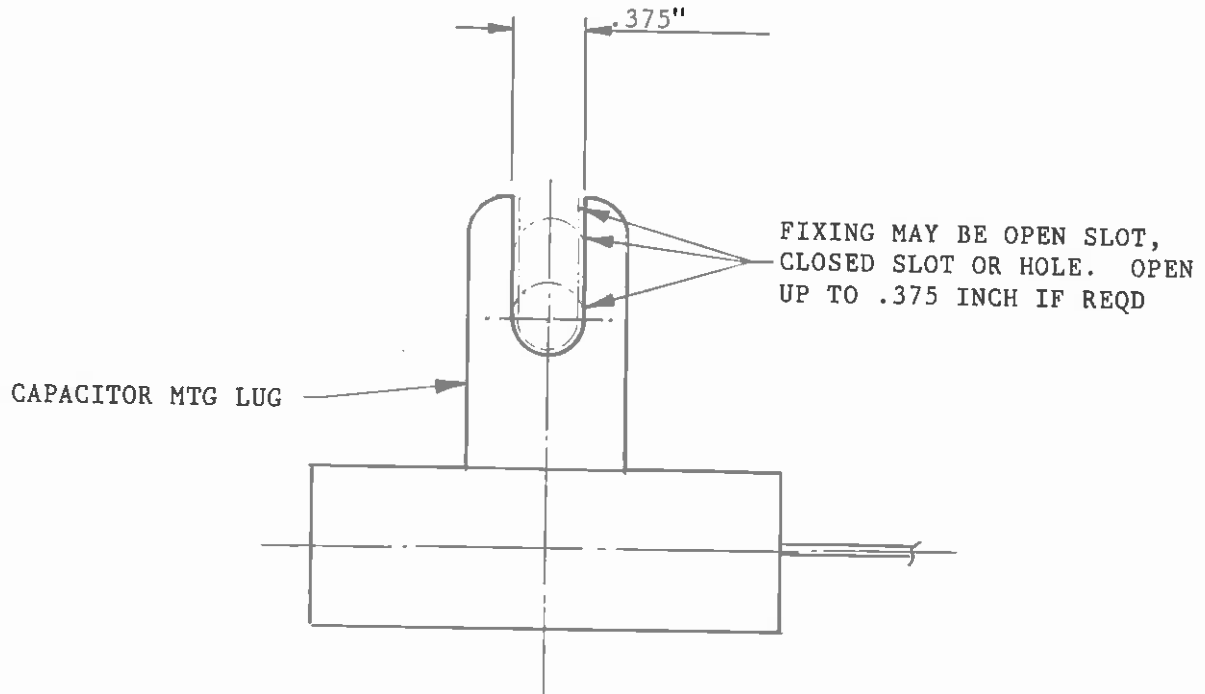

FIG 1
4. All spares stored as 126-31-066 to be inspected for hole/slot size and, if necessary, modified to dimension quoted in Fig. 1. Modified surfaces are to be smooth, after inspection and modification. Re-identify, as paragraph 3.